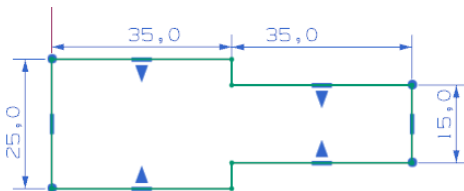

Figure 14-129 Sketch for the base feature
3. Draw the sketch for the base feature of the part, as shown in Figure 14-129.